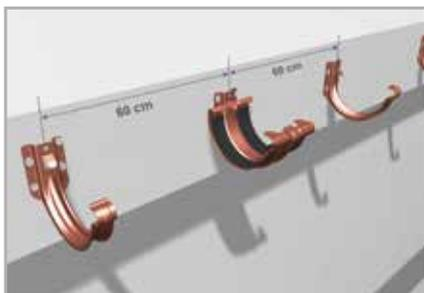

Fig. 4
- 1.9 In the Galeco STAL System, the connector on the bracket is mounted rigidly to the fascia board, stabilising the entire system **(Fig. 4)**
- 3.5 If you use a connector on the bracket to connect the gutters, install it at a distance of 60 cm from adjacent brackets **(Fig. 4)**
- 3.11 The other way to connect the gutters is to install the connector on the bracket **(Fig. 4, 25, 26, 27)**